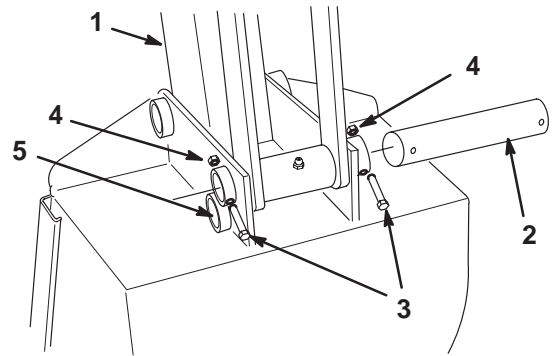

Figure 28
1. Remove the bolts and nuts securing the upper bucket pin (Fig. 28).
3. Swing the bucket up, aligning the second set of holes with the mounting holes on the dipperstick (Fig. 28).